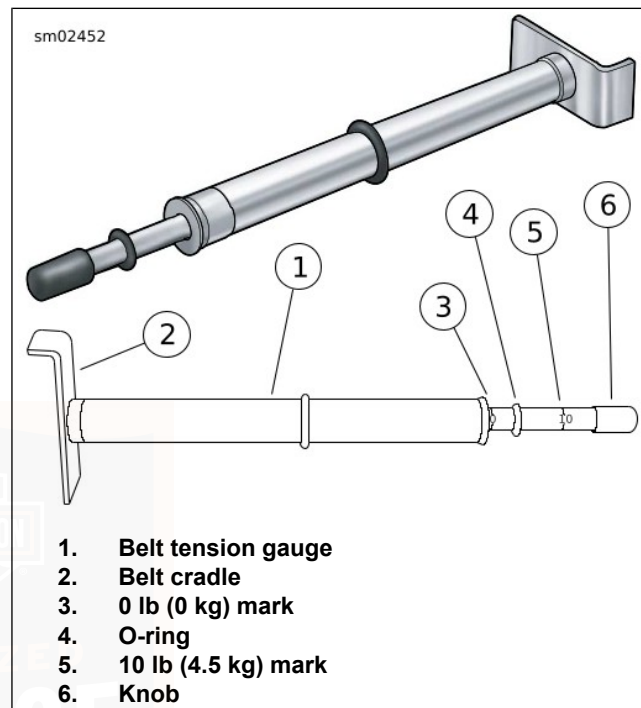
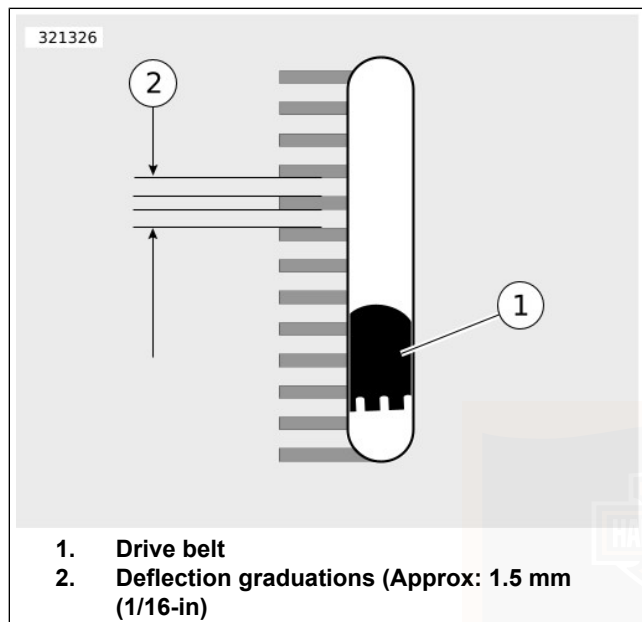

Figure 66. Belt Tension Gauge
Figure 67. Belt Deflection Window
3. See Figure 66. Measure belt deflection using BELT TENSION GAUGE (PART NUMBER: HD-35381-A):
- a. Slide O-ring (4) to zero mark (3).
- b. **Models equipped with belt deflection window:** Fit belt cradle (2) against bottom of drive belt in line with belt deflection window.
- c. **All other models:** Fit belt cradle (2) against bottom of drive belt halfway between drive pulleys.
- d. Press upward on knob (6) until O-ring slides down to 4.54 kg (10 lb) mark (5) and hold steady.
- a. **Models equipped with belt deflection window:** See Figure 67. Measure belt deflection as viewed through belt deflection viewing window while holding gauge steady. Each deflection graduation is approximately 1.6 mm (1/16 in).